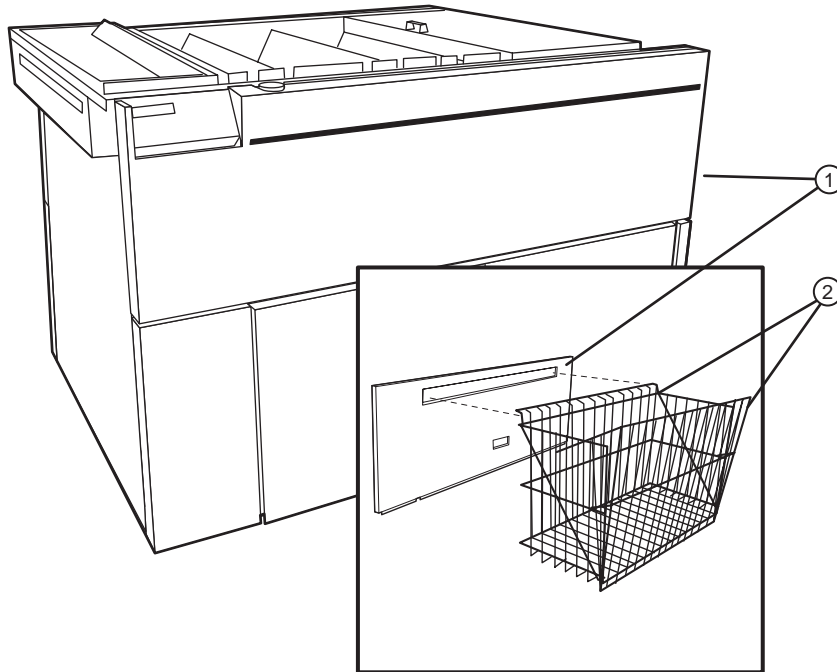

Figure 1-24 Rear panel and media basket.
①—Right side cover. ②—Roller (replace).
8. Attach the basket (2 parts) at the rear. Refer to Figure 1-24.